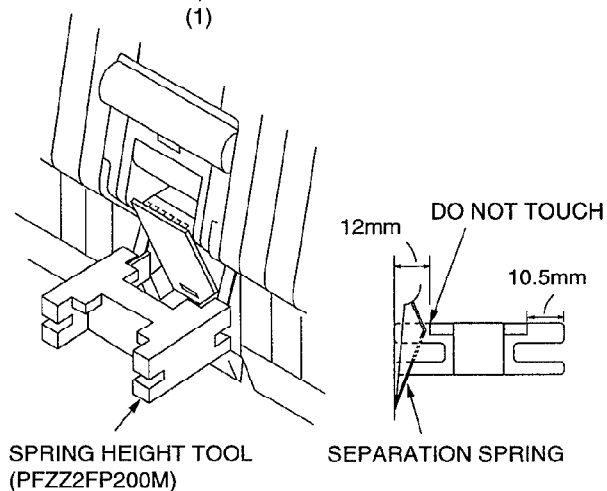

Fig. 1
2. Check the highest level of the separation spring with the spring height tool (PFZZ2FP200M). Please make sure that the separation spring does not touch the tool during this operation. (Both right and left) (See Fig. 1.)